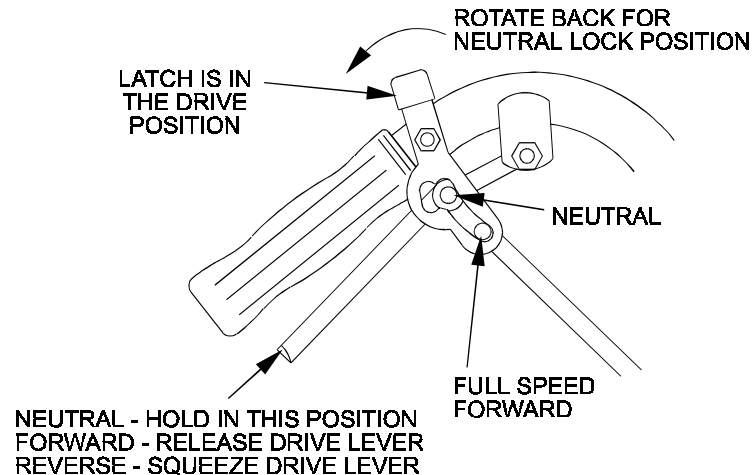

FIG. 4
4.1.1 Drive Levers: Located on each side of the upper handle assembly directly below the handle grips (See Figure 4). These levers individually control the speed and direction of each drive wheel. When the speed control lever is moved out of the neutral position and the neutral lock latches are moved into the drive position, as shown in Figure 4, and the drive levers are released, the drive wheels are engaged in the forward direction.
- 4.1.2 Neutral Lock Latch: Located directly above the drive levers. These latches allow the operator to lock the drive levers in a "neutral" position where neither of the drive wheels are engaged in either a forward or reverse direction. See Figure 4.
4.3.3 Drive Lever/Neutral Lock Latch Operation: To lock the drive levers in neutral, squeeze the drive levers back to the neutral position (**Do Not squeeze the drive levers all the way back as this will cause the drive wheels to go into full reverse direction**). Place thumbs on the upper portion of the neutral lock latches and move them to the rear. Release drive levers (See Figure 4).
For straight ahead motion, smoothly release both drive levers to engage drive wheels. Squeeze the right hand drive lever to turn right and the left hand drive lever to turn left. To make a “zero turn”, squeeze either the left hand or the right hand drive lever back into the reverse position while the opposite drive lever is in a forward position at an equal but opposite speed. To back up, squeeze both drive levers into the reverse position (See Figure 4).